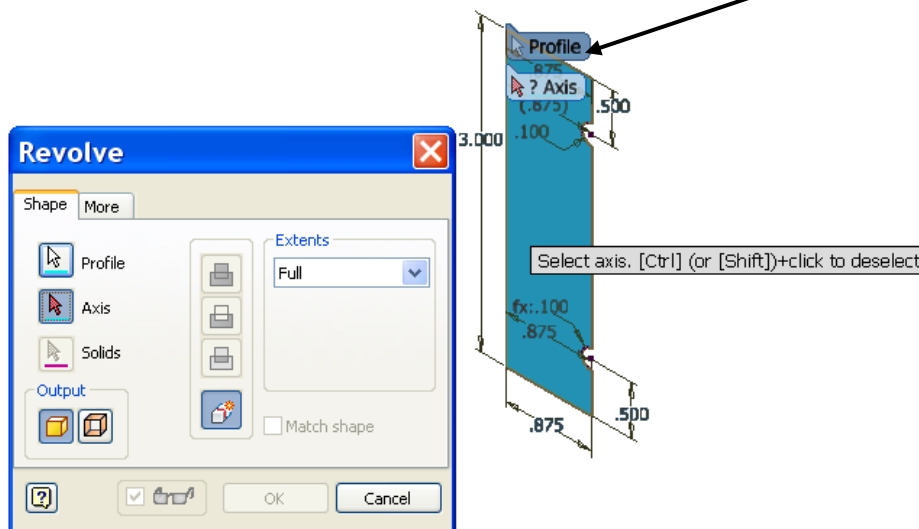

Figure 12. Completed mallet head part.
- From **Create** panel select **Revolve**. Use Revolve pop up or on-screen selection tags to create the revolution. See Figure 12.